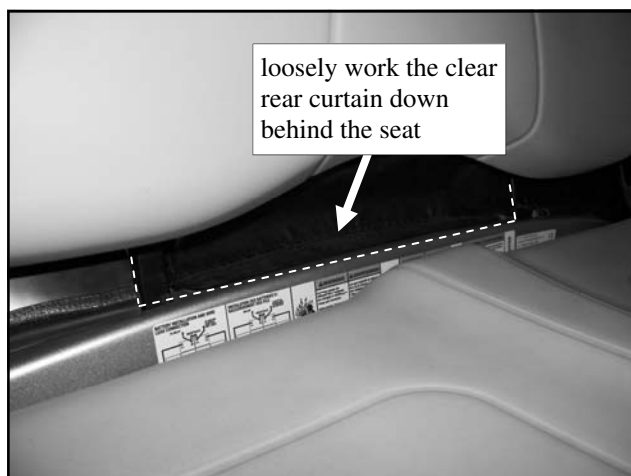

Fig. 4.7 (view from right side)
4.7 Per fig. 4.7, feed the lower rear curtain down between the basket and the back of the seat. Pull it down as far as it will go.